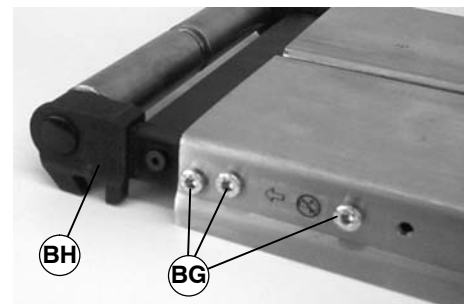

Figure 31
3. Remove screw (BE) on drive shaft side of conveyor.
4. Remove three (3) screws (BG of Figure 31) on side opposite of drive shaft.
5. Remove drive spindle assembly (BH).